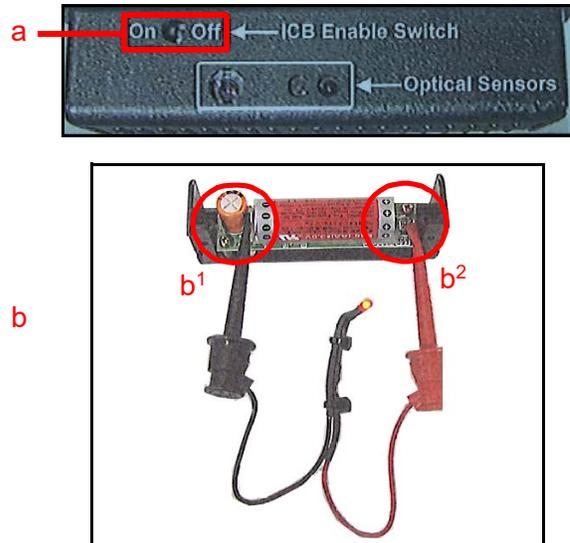

Figure 2 ICB Cash Box DIP Switch (a) / Test Battery w/ Refresh Harness (b)
1. Set the ICB Cash Box DIP Switch to OFF to power off the ICB Module (**Figure 2 a**).
1. Connect the Refresh Harness to the Battery (**Figure 2 b**).
- a). Connect the Black clip to the Negative (-) terminal of the Battery (**Figure 2 b1**).
- b). Connect the Red clip to the Positive (+) terminal of the Battery (**Figure 2 b2**).